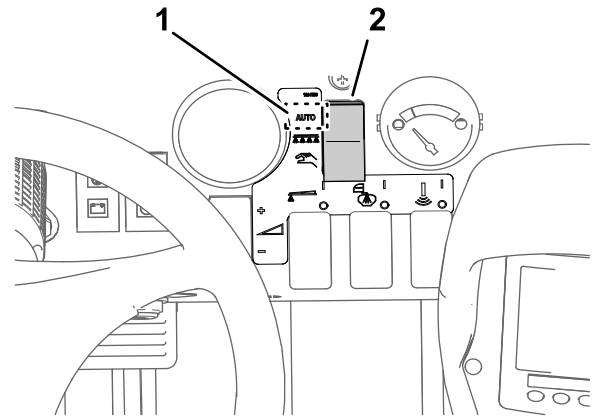

Figure 28
3. Set the sprayer mode button to the Application Rate Mode (Figure 28).